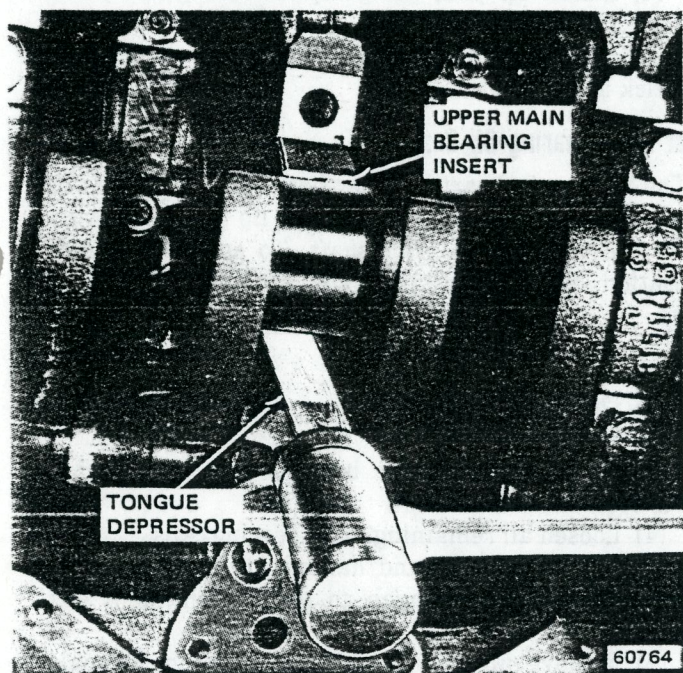

Fig. 1B-93 Removing No. 4 Main Bearing Insert
**NOTE:** Because there is no hole in the number 4 main journal, use a tongue depressor or similar soft-faced tool to remove the bearing (fig. 1B-93). After moving the insert approximately one inch (25.40 mm), the insert can be removed by applying pressure under the tab.